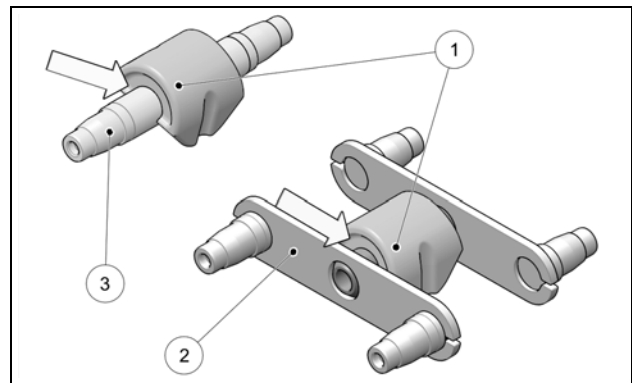

Figure 40
Verify if vulcanized rubber supports (1) on Stabilizers (2) and Wheel Shafts (3) are well secured and are not showing signs of detachment (ungluing) between components. Figure 40.